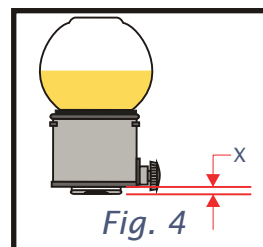
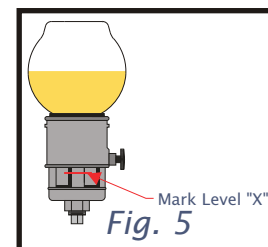

Fig. 4
Fig. 5
**Adjustment tip:** Measure distance between bottle and casting edge (Fig. 4 -this dimension may vary), replace bottle on adjustment arm in lower casting - mark dimension on outside of lower casting with temporary marker (Fig. 5). This is the level setting.